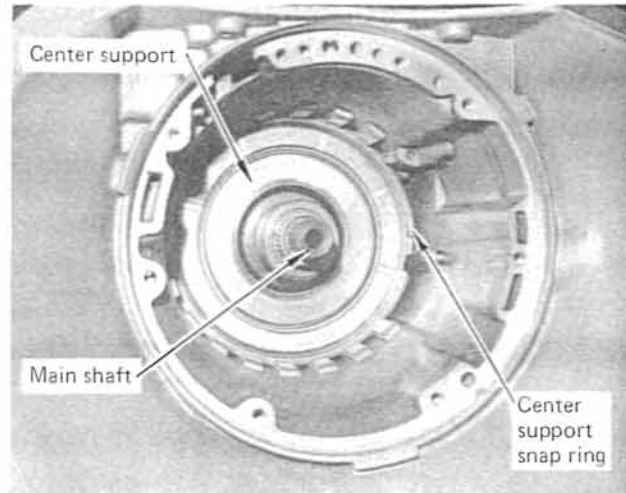
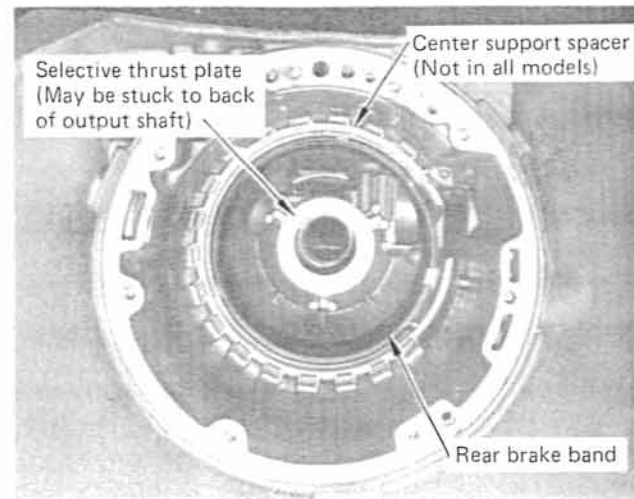

FIGURE 13
FIGURE 14
**STEP 16.** Remove the center support to case snap ring. (See Fig. 13) Grasp the center support and pull it out. When you remove the center support, check the back side for a bearing race and inside the recess for a plastic or bronze thrust washer. (See Fig. 14) Grasp the main shaft and remove the entire planetary geartrain assembly. Set them aside.
**STEP 17.** Remove the output shaft to case thrust washer and selective thrust plate. (See Fig. 14) Note: They may be stuck to the back of the output shaft. Some models have a center support spacer. This is a thin snap ring located just behind the center support in the case. If your transmission has one, remove it. Remove rear brake band.